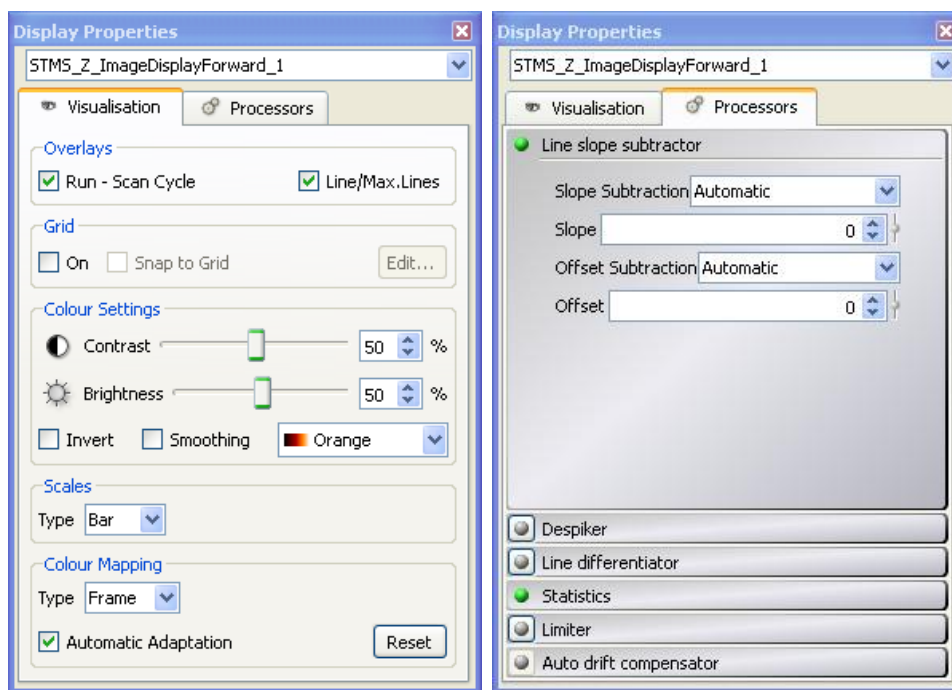

Figure 31. *Display Properties* windows, examples shown.
- The display colour table is automatically adapted to the incoming data in order to cope with changing data ranges. On samples with a slope in Y-direction this may result in a flickering appearance when the colour table needs frequent adjustment. This feature can be switched off in the *Properties* window available from the context menu, see figure 31 on page 44. In this case the colour table can be adapted manually by pressing *Reset*.